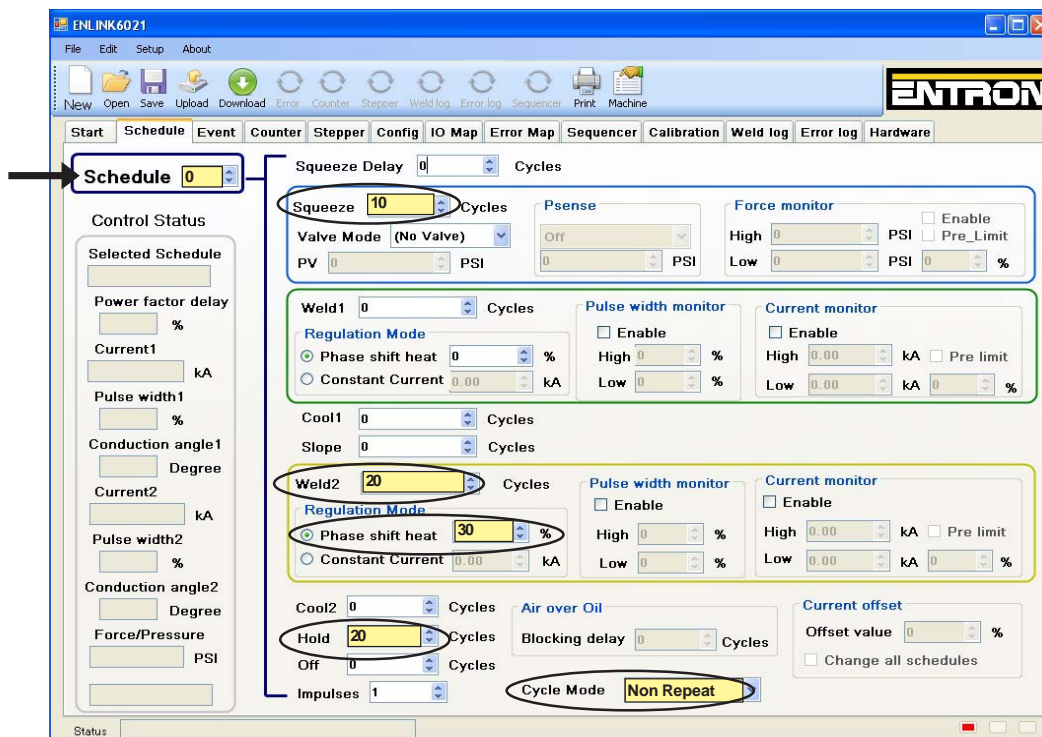

Figure 9-52. Edit SCHEDULE 0
A. Edit SCHEDULE 0 as shown in Figure 9-52.